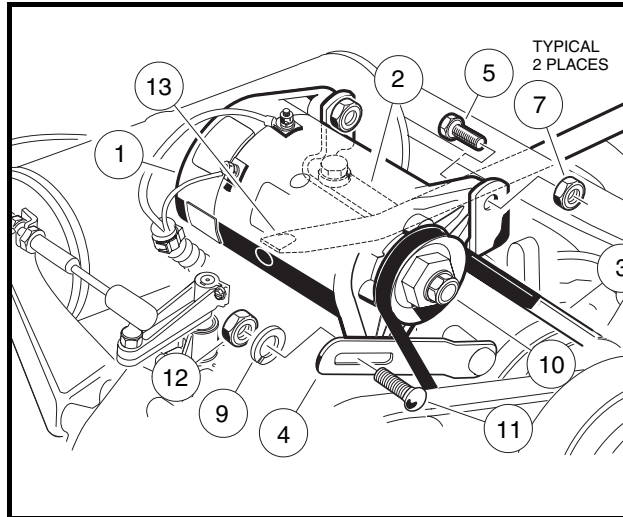
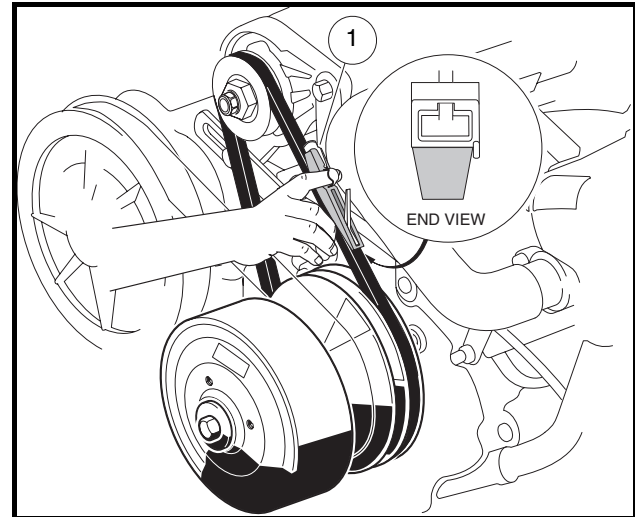

Figure 13-13 Starter/Generator Assembly
Figure 13-14 Belt Tension Gauge
2. Install two 3/8-inch hex-head pivot bolts (5) into the mounting bracket with the heads of the bolts facing towards the driver side of the vehicle. Position the starter/generator in the mounting bracket so that the bolts will go through the starter/generator before going through the bracket. Install a locknut (7) onto each bolt and tighten to finger-tight (**Figure 13-13, Page 13-10**).
3. Install the adjustment bolt (11) through the adjusting bracket (4) and then through the starter/generator. Install a lockwasher (9) and 5/16-inch nut (12) onto the end of the adjustment bolt (11) and tighten to finger-tight (**Figure 13-13, Page 13-10**).
4. Install the belt (3), then tighten the mounting bolts. **See Belt Tension Adjustment on page 13-10.**
- Make sure the two pivot bolts (5) on the mounting bracket, carriage bolt (11) and hex nut (12) are finger-tight (**Figure 13-13, Page 13-10**).
- Push the starter/generator down to its lowest point of adjustment travel. With the starter/generator belt in place around the drive clutch pulley, install the starter/generator belt (3).
- Place a pry bar (13) between the top of the starter/generator mounting bracket (2) and the underside of the starter/generator, by passing the pry bar under the exhaust header.
- Hold the pry bar and measure the belt tension using a Krikit[®] gauge (1) (available at NAPA[®] Auto Parts stores), or equivalent. Proper tension for a new starter/generator belt should be 75 ft-lb (101.7 N·m), or 45 ft-lb (61 N·m) for an existing belt (**Figure 13-14, Page 13-10**).
- While maintaining the tension, tighten the adjustment nut (12) to 144 in-lb (16.3 N·m). Tighten the two pivot bolts (5) and hex nuts (7) to 23 ft-lb (31.2 N·m) (**Figure 13-13, Page 13-10**). **See following CAUTION.**